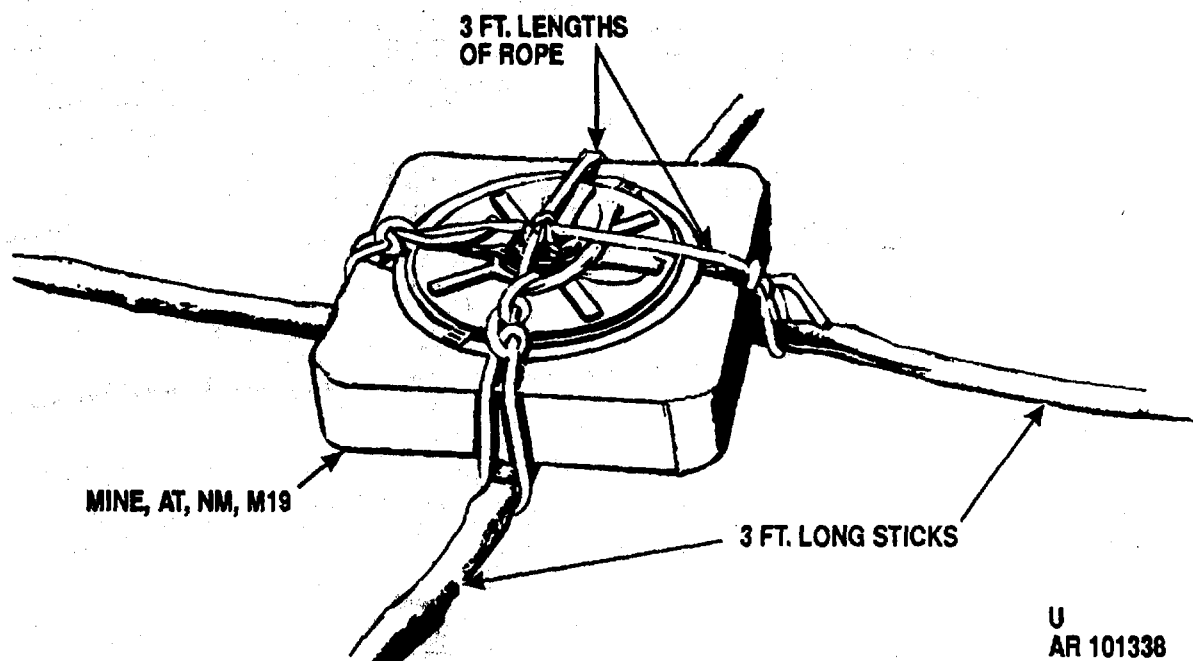

Figure 2-52. Outriggers for amphibious emplacement of mines M19.
(c) Equipment needed for construction and use of field improvised outriggers are two green limbs, each 3-feet long and 1 inch or less in diameter (barbed wire stakes, signposts, fence rails or similar items having the proper dimensions may be used) (fig. 2-52). Green limbs are recommended because they are stronger and less likely to float than are those which are dried out and dead. In addition, two pieces, each 3-feet long, of clothesline, twine or similar material are required.
1. To prepare outrigger, fasten two 3-foot lengths of green limbs to the underside of the mine and secure with two 3-foot lengths of rope, as shown in figure 2-52.